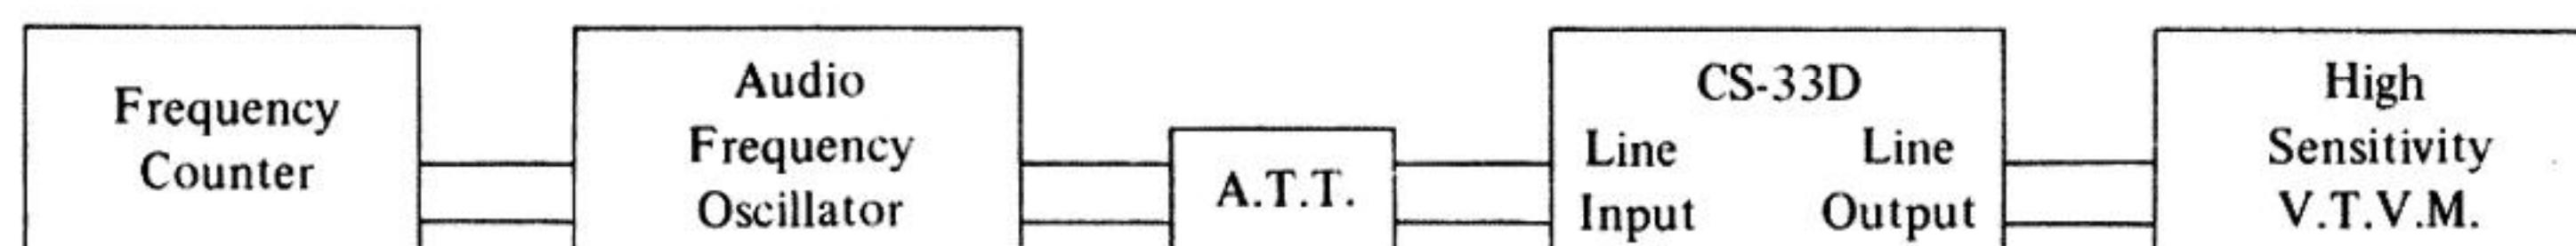

Fig. 17
- a) Connect the various measuring instruments as shown in Fig. 17.